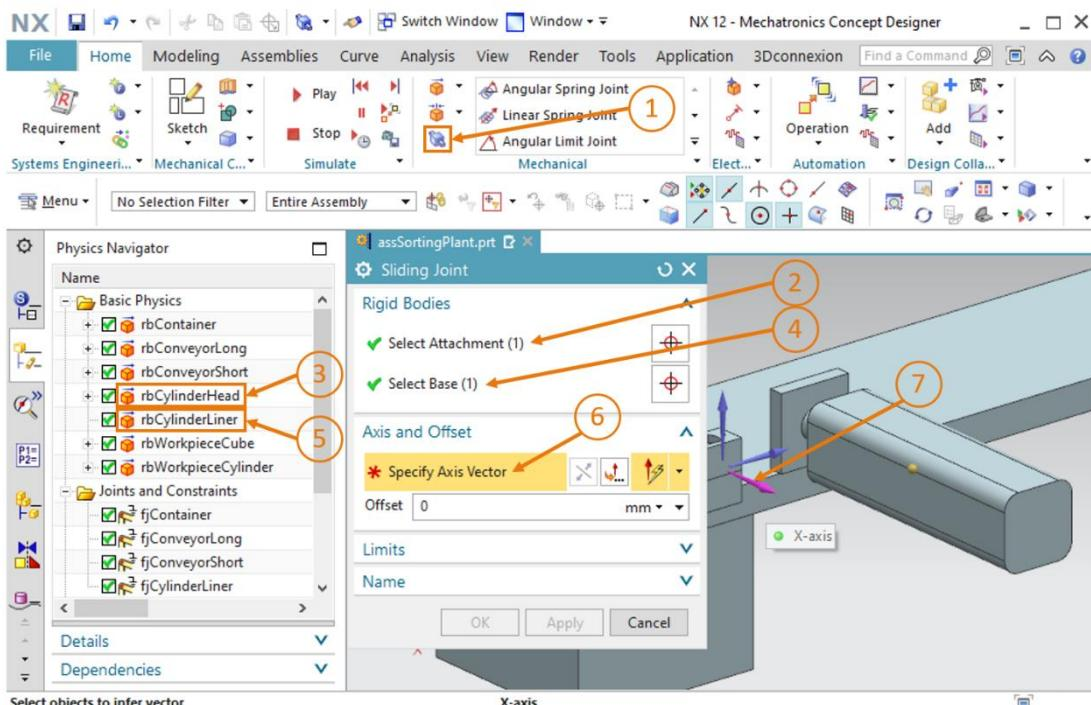

Figure 34: Creating a sliding joint for the ejector – Selection of rigid bodies and the axis vector
- Search for the "**Sliding Joint**" command in the "Mechanical" menu group or via the Command Finder. Click the corresponding button to open the "Sliding Joint" command window (see Figure 34, step 1). Here, you first must select two rigid bodies in the Rigid Bodies group.
Consequently, the rigid body of the head of the ejector "**rbCylinderHead**" must be selected as the **attachment** (see Figure 34, steps 2 + 3). The rigid body of the guide cylinder of the ejector "**rbCylinderLiner**" acts as the **base** (see Figure 34, steps 4 + 5). You can select both
rigid bodies on the "Physics Navigator" tab of the Resource bar. Then select the "**Specify Vector**" button in the "Axis and Offset" group of the command window in order to define the vector along which the joint should slide (see Figure 34, step 6). For this, select the **X-axis** in the three-dimensional graphics window (see Figure 34, step 7).